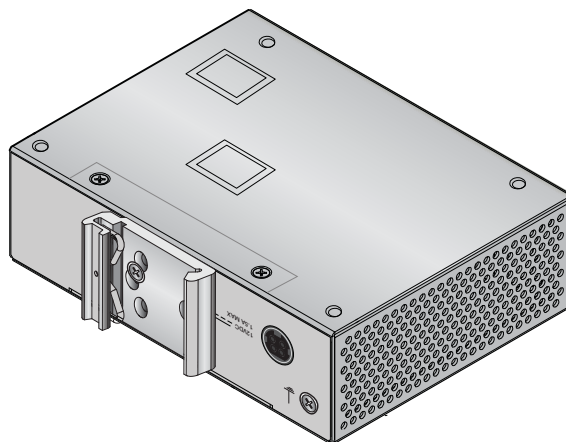

Figure 23. Securing the mounting kit
2. Secure the mounting kit to the unit with the screws, as show in Figure 23.